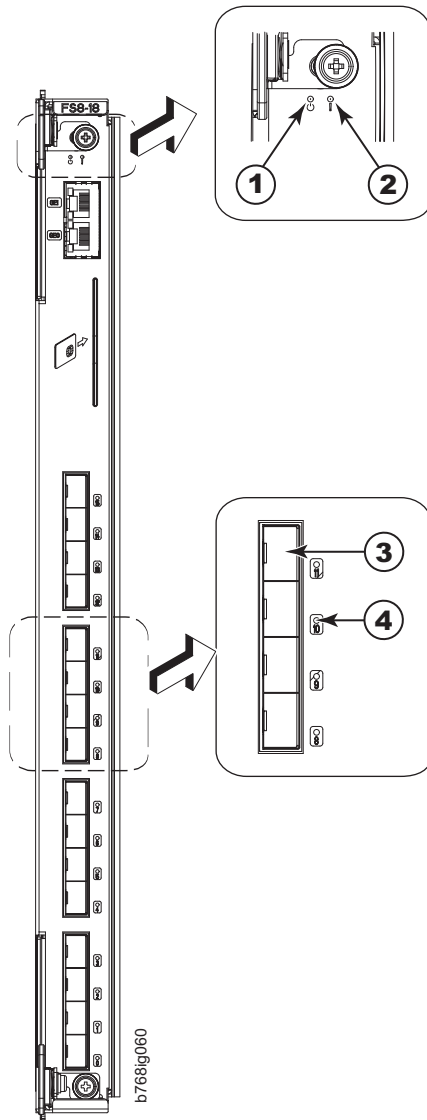

Figure 21. FS8-18 encryption blade
- Figure 21 on page 54 illustrates the FS8-18 encryption blade